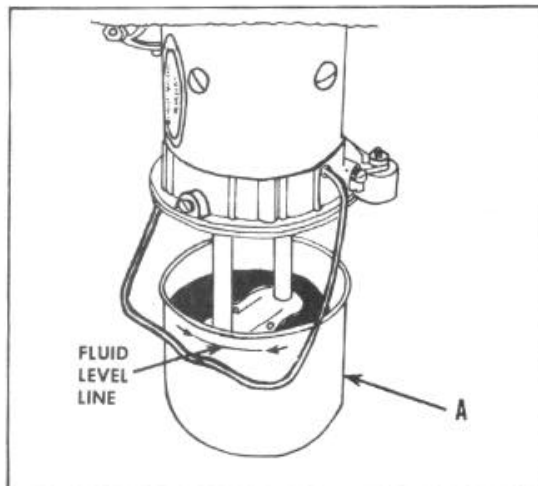

FIGURE 186
1. With the car raised on a hoist, remove the reservoir (A), Figure 186, and fill to the fluid level line with hydraulic fluid.
To prime the pump, disconnect the fluid re turn line at the front of the pump. Hold thumb tightly over return port in pump and run pump a few seconds until fluid is expelled from the pressure line. Reconnect lines and check the fluid level in the reservoir, Figure 186.